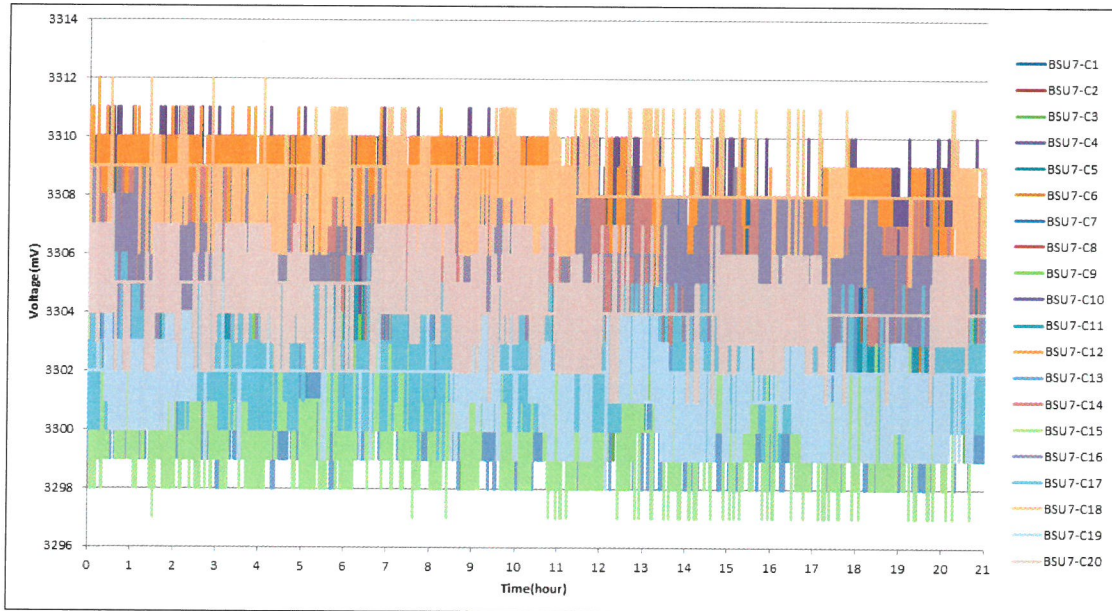

Fig.7 Show the cell voltage during X axis vibration test
- Fig.7 Show the cell voltage of X axis vibration test.